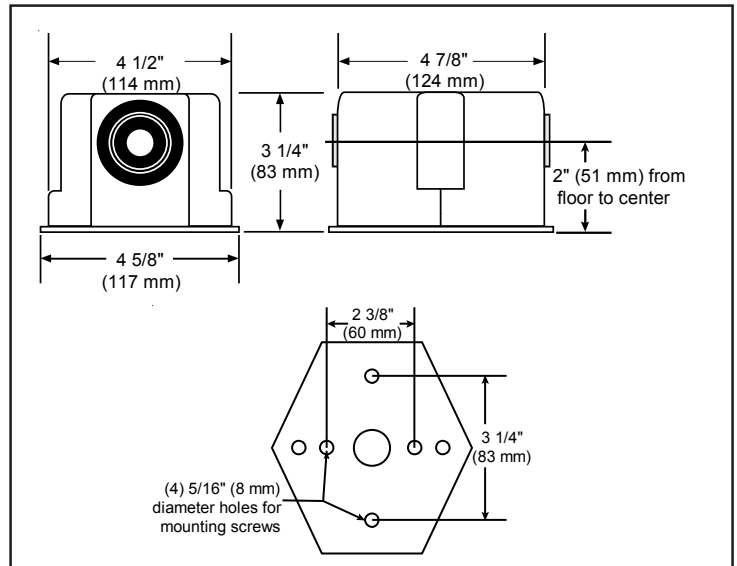

Figure 3. Dimensions
1. Position the mounting base plate as a template, and mark the four through holes. Remove the plate and drill holes 3/8" x 1 5/8" (41 mm) deep in the floor. See Figure 3.